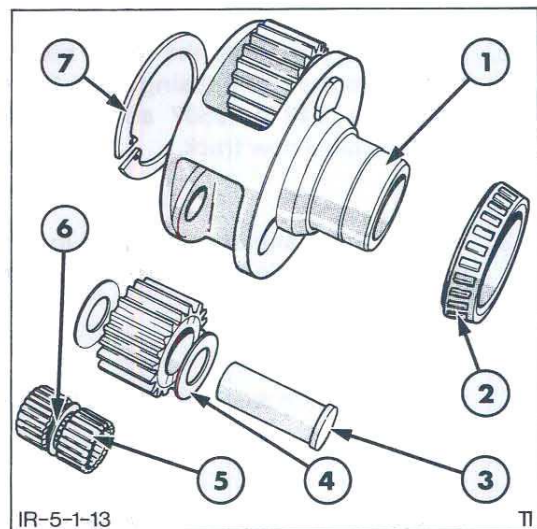

Figure 13
- To disassemble the planetary gear assembly bend up one end of the planet gear shaft retaining ring and withdraw the retaining ring. Push the planet gear shafts from the carrier and remove the planet gears complete with needle roller bearings and thrust washer, Figure 13.